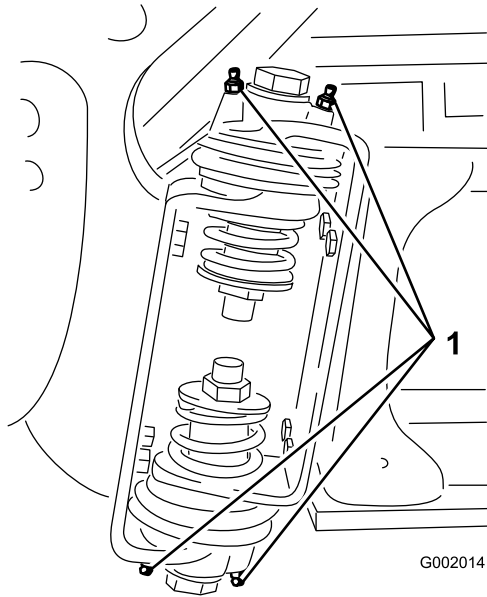

Figure 86
2. Pump grease into the bearing or bushing at each fitting Figure 86.